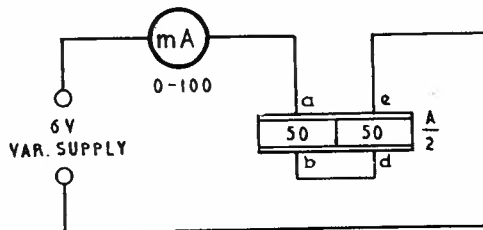

FIG. 1.
STEP 1. Connect the circuit as shown in Fig. 1. (This doubles the number of turns on Relay 1, in comparison to Project No. 41)